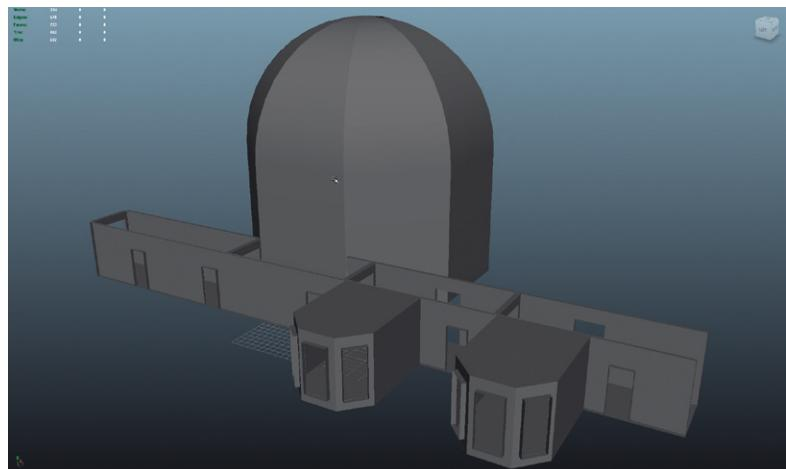

FIG 3.40 Finished rough of large gym space.
Step 56: Scale the room to taste and place it in the scene as seen in Fig. 3.40. Be sure to use either Modify > Center Pivot or manually move the Manipulator into a more logical location before starting in on scaling things. Note that in Fig. 3.40, the room has also been rotated 22.5° (along the Y), so that a flat wall meets up with the hallway.